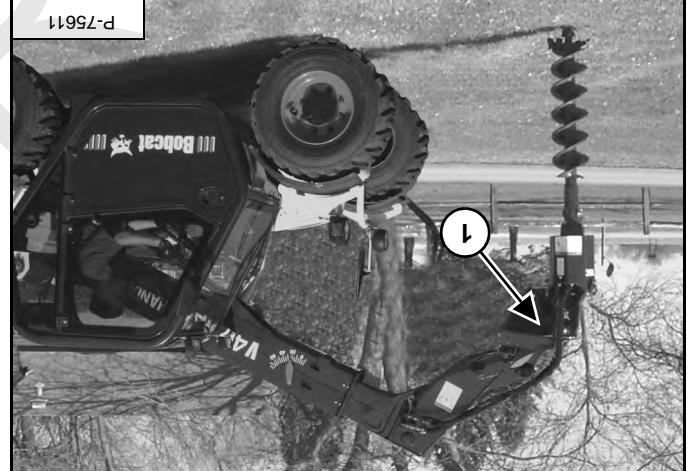

Figure 159
Engage the auxiliary hydraulics on the telescopic handle so that the auger turns in a clockwise direction [Figure 159].
Raise the boom and tilt the Bob-Tach forward until the auger is not contacting the rubber stop on the transport bar (item 1) [Figure 159]. In this position, the auger will be free floating in the mounting frame and will allow for a vertical hole to be drilled.